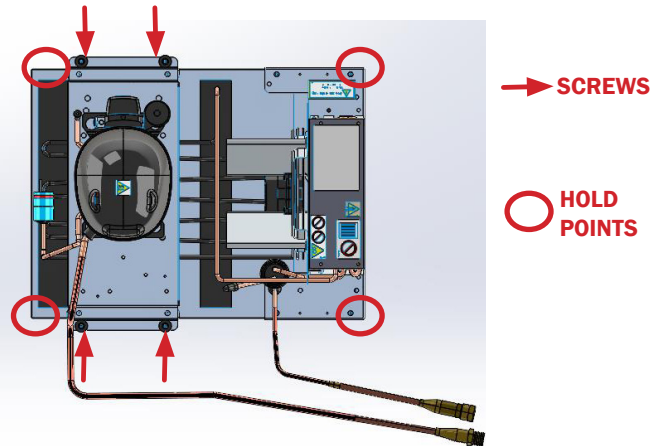
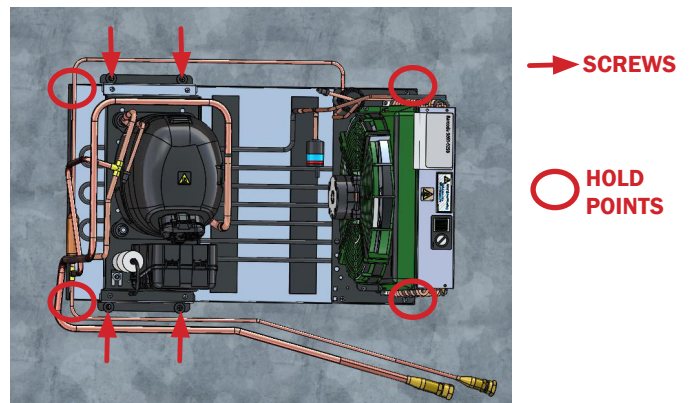

Fig. 17a 2 & 3-door MT CDU screws and hold points
Fig. 17b 3-door LT CDU screws and hold points
- With connections out of the area, screws can now be removed. For 2 and 3-door cases, remove screws attaching CDU to top of the case (Fig 17a) with 1/4" hex head. For 4 and 5-door cases, remove screws attaching CDU to top of the case (Fig 17b-c) with 1/2" hex head.